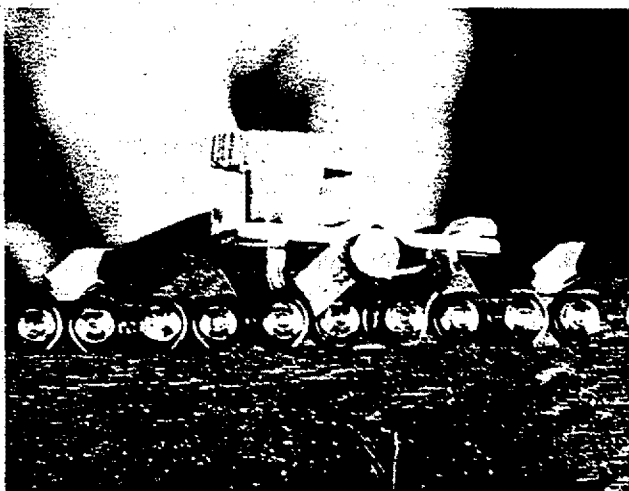

Fig. 23
2. Place file and guide on top of chain, allowing guide to rest on top of cutter and depth gauge. Figure 23.